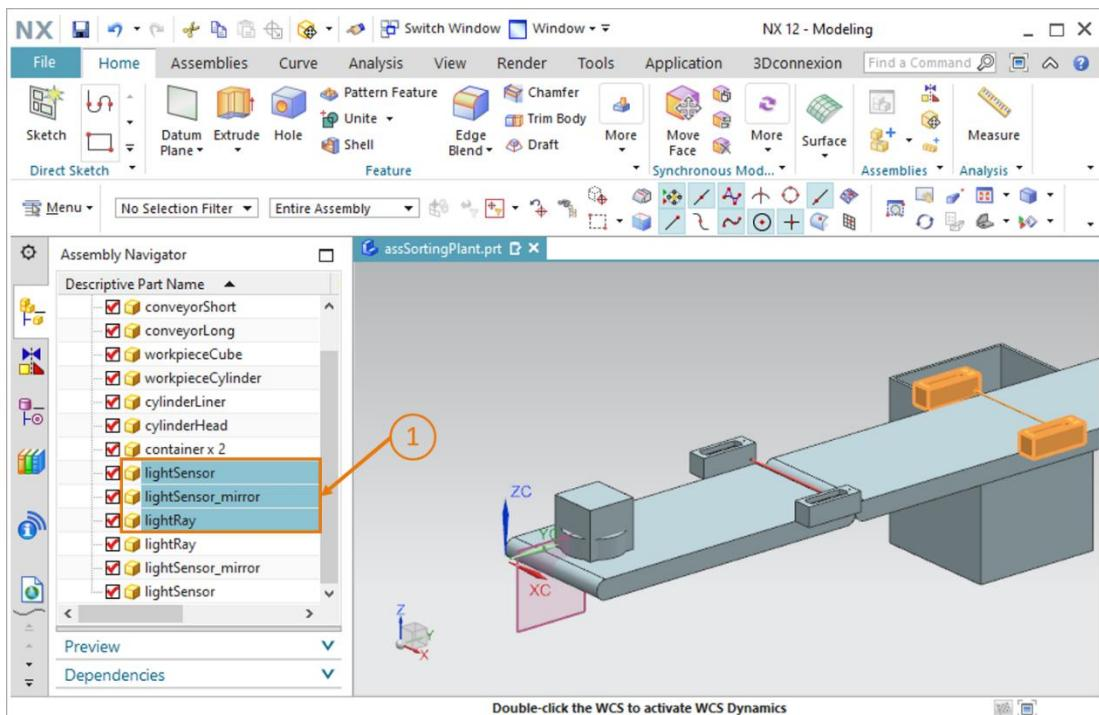

Figure 82: Selection of the components to be copied
- You should then find the unpacked components in the Assembly Navigator. Instead of the models being listed once with the addition "x 2", the models are now listed twice. First, select the models that you have created for the first light sensor of this light sensor system (see Figure 82, step 1). You can verify the selections in the graphics window because the selected parts appear in orange color, as highlighted on the right side in Figure 82.